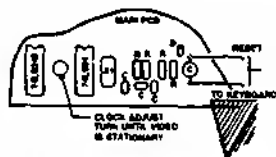

Figure 3. 74LS04 on VZ200.
1 If the video signal wavers, then correct the clock speed by adjusting the variable capacitor by the 74LS04 on the main pcb (See Figure 3 for the VZ200 location. In the VZ300, the variable capacitor is located inside an RF shield to the right of the CPU. In both cases, a hole has been punched in the RF shield for access.)
4. RESET. Locate the 10uF capacitor on the 74LS04 (see Figure 3; this is the same IC as is used for the clock signal). Connect a pushbutton across this capacitor. When the button is depressed the capacitor will discharge, causing a reset signal on the CPU.